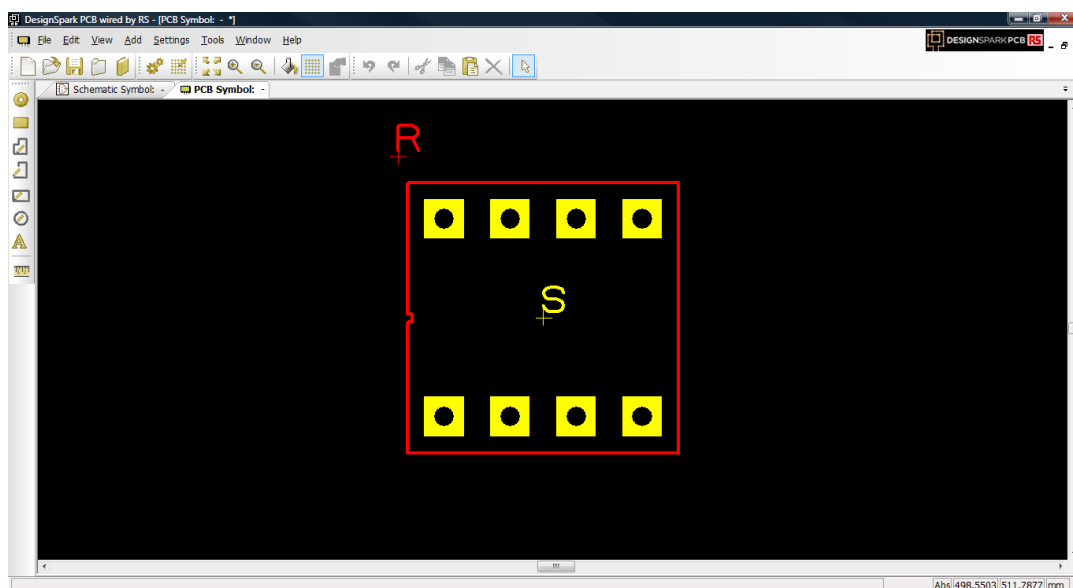

Figure 6-33: Wizard – PCB Footprint
22. Select the “Finish” button when done, to create the PCB footprint as shown in Figure 6-33.